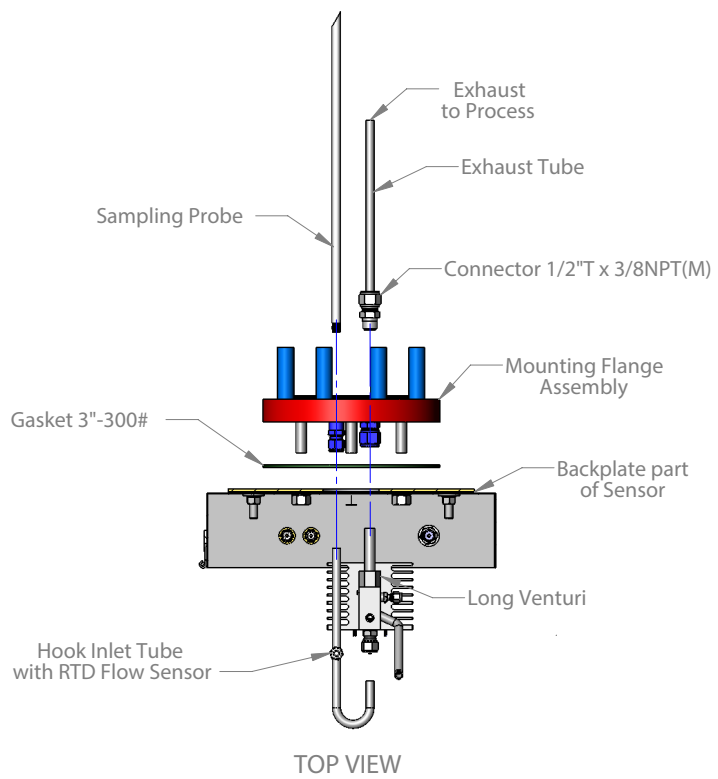

Figure 2-1.1.
- Figure 2-1.1 shows how to install the standard 1/4" NPT probe and optional exhaust tube.
- Screw the probe into the back of the sample probe port on the rear of the analyzer, then mount the analyzer – Figures 2-1.1 and 2-1.2.
To install the exhaust tube, thread it into the exhaust port on the rear of the analyzer as shown in Figures 2-1.1 and 2-2.